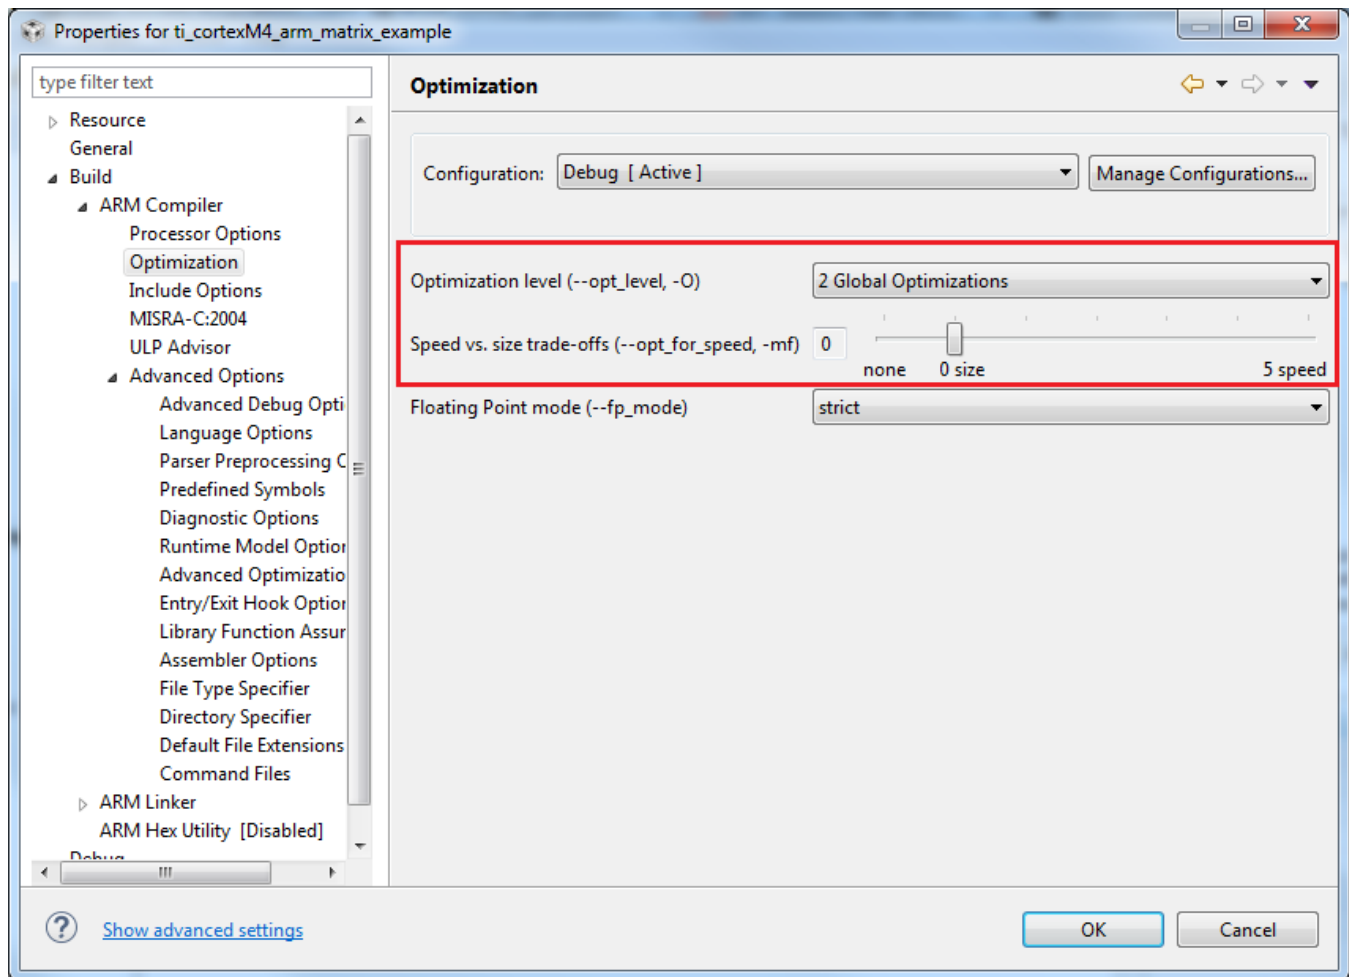

Figure 18. The Proper Optimization Settings for Compiling the Example Projects
4. Click the *Optimization level* (`--opt_level`, `-O`) drop-down menu and select 2 in the Optimization panel (see Figure 18).